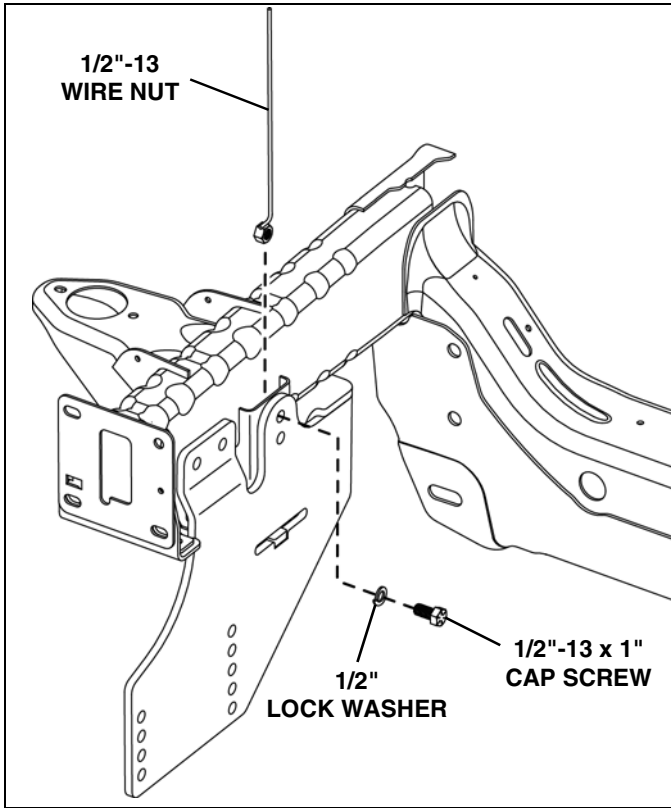

Figure 5
- a. Insert (1) M12-1.50 x 30mm Cap Screw (#10) through (1) 1/2" Lock Washer (#9), and the lower hole of the Weldment, Side, PS (#3). Then, thread into the lower Tow Hook hole.
- b. Insert (1) Wire Nut, 1/2"-13 (#5) into the vertical square bracket on the truck frame from the top. Then, insert (1) 1/2"-13 x 1.00" Cap Screw (#11) through (1) 1/2" Lock Washer (#9), then the top side hole of item (#3) and secure to item (#5). (See Figure 5)